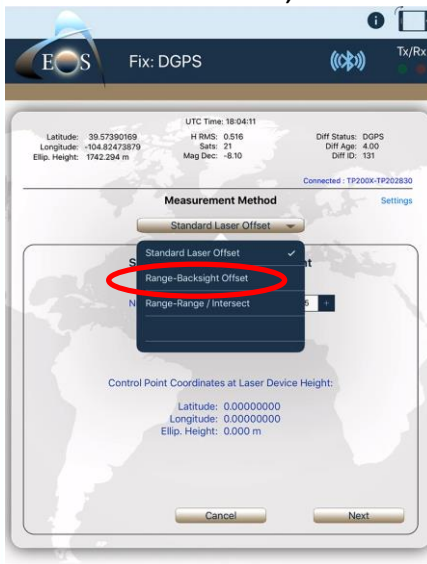

Figure 9B
- 9B. From the **Measurement Method** menu, select **Range-Backsight** (Figure 9B) and tap Next